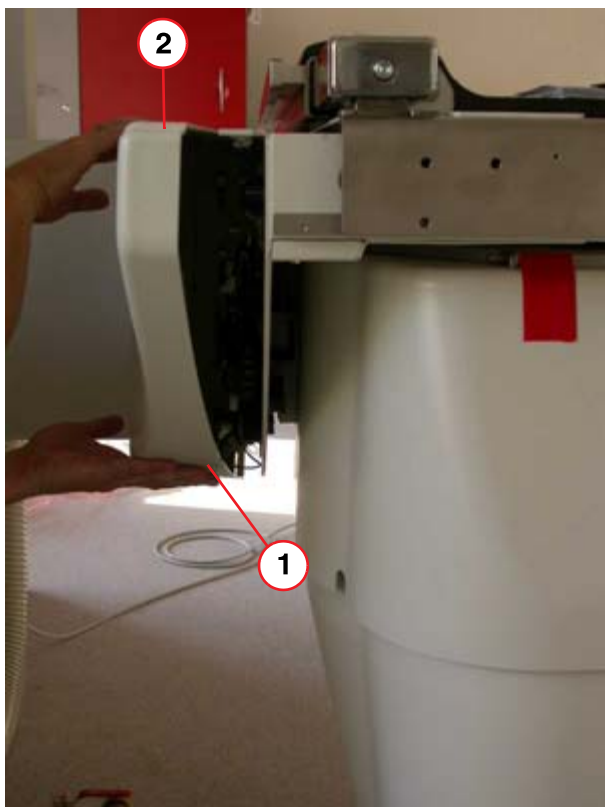

Fig. 94: Rear unit carrier cover
- Snap on the rear unit carrier cover. It is secured after installation of the upper unit carrier cover (Fig. 94 / p. 80).
- Secure the cover on the bottom with cover screws (1/Fig. 94 / p. 80).
- Secure the cover on the top with Allen screws (2/Fig. 94 / p. 80) by inserting the Allen screws through the upper unit carrier cover and the rear unit carrier cover.